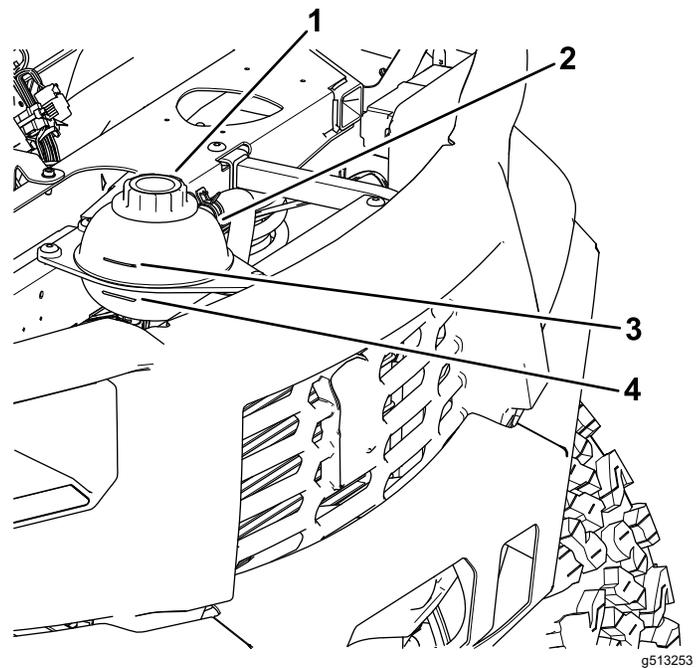

Figure 54
4. Check the coolant level in the coolant tank (Figure 54).